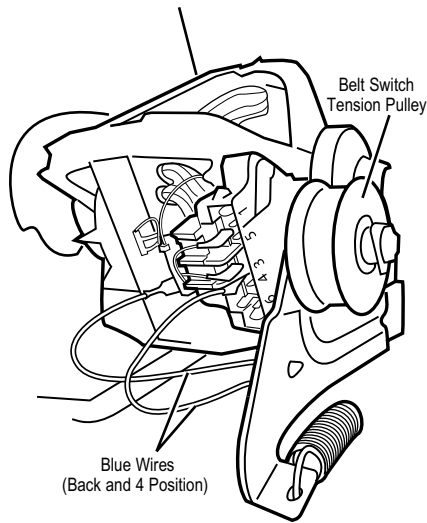

Figure 8. Checking the belt switch.
8. Check the belt switch by measuring resistance between the two blue wires, as shown in Figure 8, while pushing up the belt switch tension pulley.